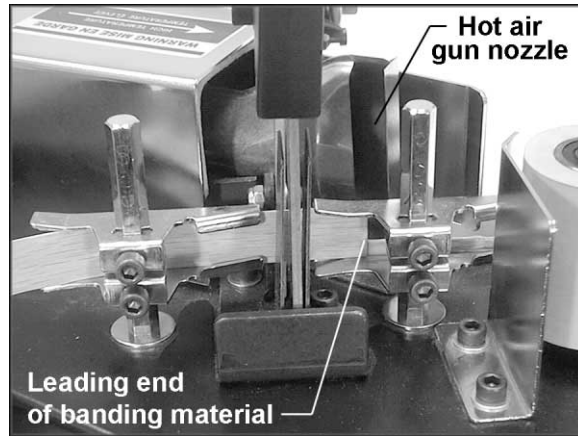

Figure 10
4. Position the leading end of the banding material in front of the nozzle of the hot air gun, as shown in Figure 10.